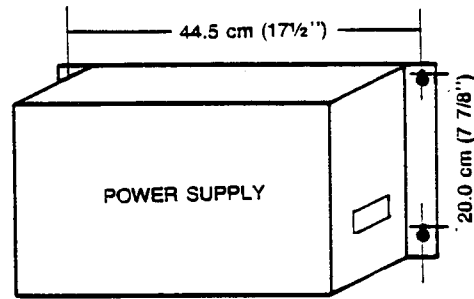

Figure 5-3 POWER SUPPLY MOUNTING CENTERS
- *Mark four points on the backboard that correspond to the dimensions between the mounting hole centers (Figure 5-3).